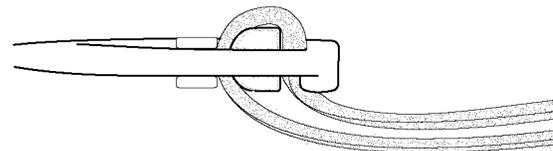

Figure 5. Routing of Leg and Chest Straps thru "V" Rings
- b. Install "V" Rings to the chest and leg straps (Figure 5).